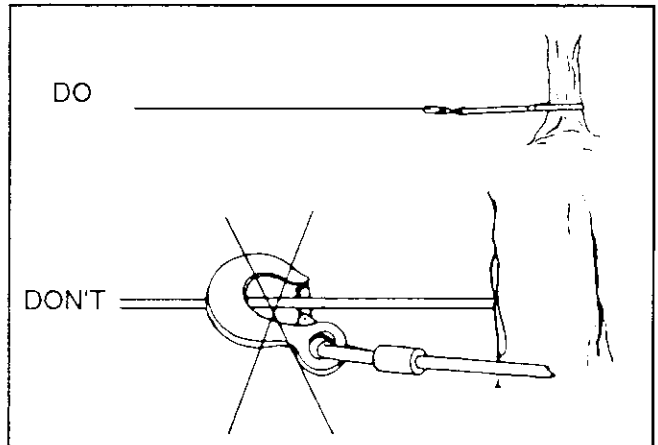

Figure 6 Cable Attachment
6. Secure the load. Use an Ecostrap™ (Part Number P7700200AJ) or a chain (properly load rated) to prevent the cable from twisting or fraying. Never wrap the winch cable around the load (See Figure 6).